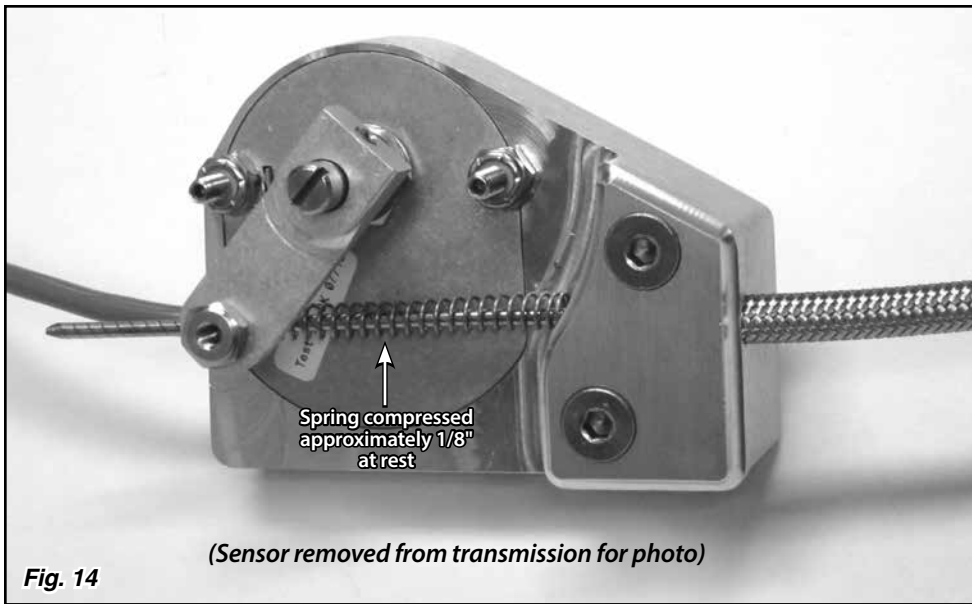

Fig. 14
- All applications with the trans arm pointing UP: Push the sensor arm up against the spring, so that the spring is compressed approximately 1/8" at rest in Park. Fig. 14 While holding that position, tighten the set screw in the index cable stop on the sensor arm using a 1/16" Allen wrench.